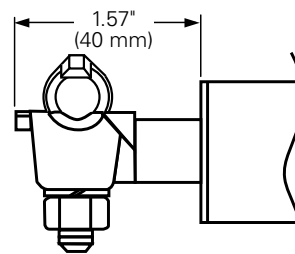

Figure 8. Eyebolt terminal.
1. Insert threaded end of the eyebolt terminal body into the tapped center hole of the Companion II fuse and torque the eyebolt terminal to 10-15 ft-lbs. (Figure 8.)
2. Place the internal-tooth lock washer onto the bolt, and insert the bolt through the spade adapter hole into the tapped center hole of the fuse (as shown in Figure 8) and torque the bolt to 10-15 ft-lbs.